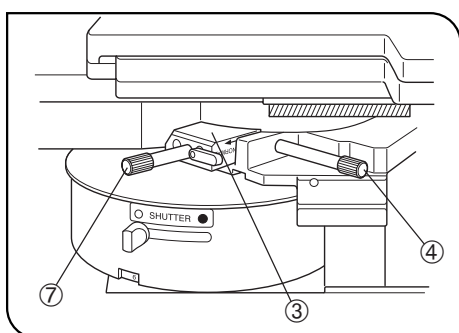

Fig. 46
6. Move the prism movement knob ⑦ of the DIC slider in the clockwise direction around the axis until, the knob is stopped. A black interference stripe then a rainbow-colored interference stripe will be observed. Here, stop the knob at the position with which the black interference stripe can be seen. (Figs. 46 & 51)